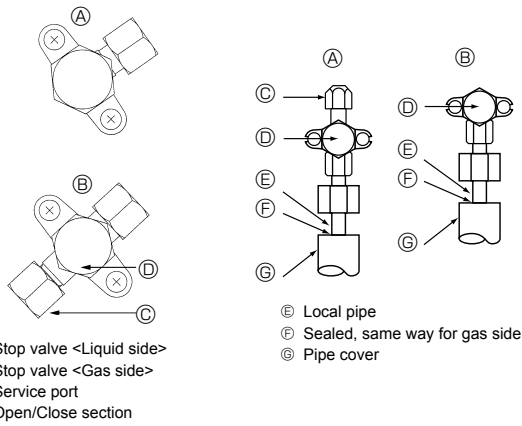

Fig. 4-4
4.4. Refrigerant pipe airtight testing method (Fig. 4-4)
- If the pressure decreases in steps (2) or (3), there is a gas leak. Look for the source of the gas leak.